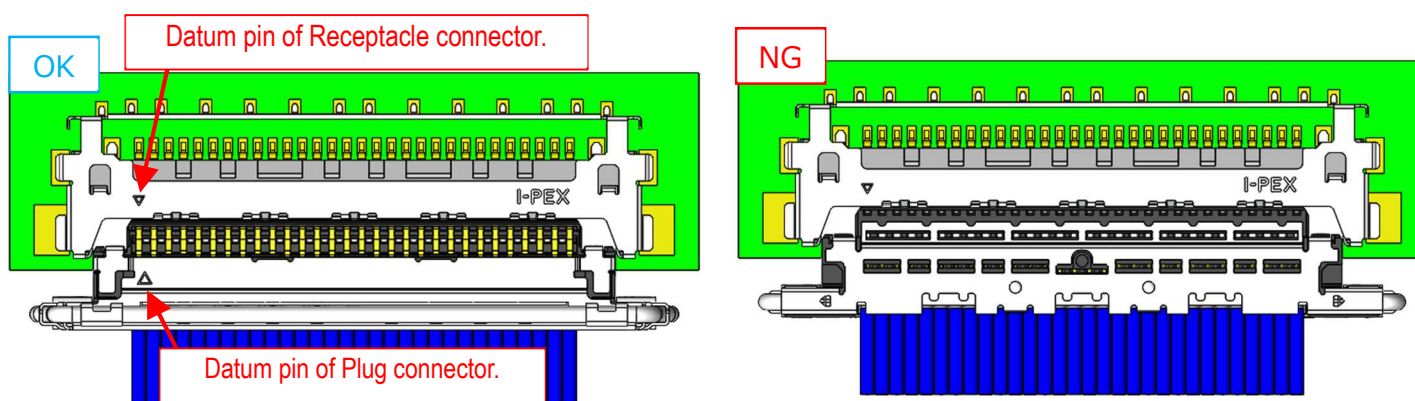

Fig.3
- ② As shown in Fig.3, please set so that the datum pin mark of Plug connector and Receptacle connector are matched.